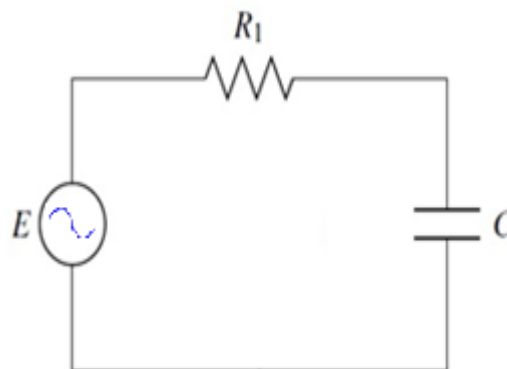

Figure 9.3: Circuit Diagram of Passive Low Pass Filter
1. Build the passive low-pass filter circuit shown in Figure 9.3 using the breadboard and the specified components. ($R = 10K\Omega$, and $C = 10nF$.)